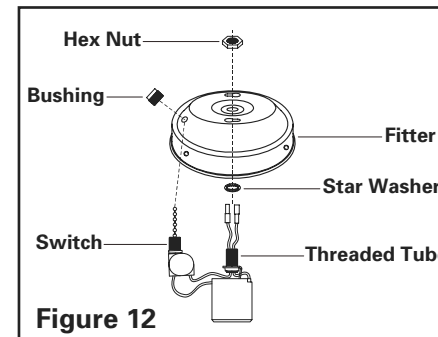

Figure 12
1. If you want to replace the fitter for the fan light kit, please loosen the hex nut and bushing to release the fitter (See figure 12).
2. When re-installing, please place the fitter, star washer over the threaded tube, then tighten with hex nut. Take the switch through the side hole of the fitter then tighten with the bushing. (See figure 12).